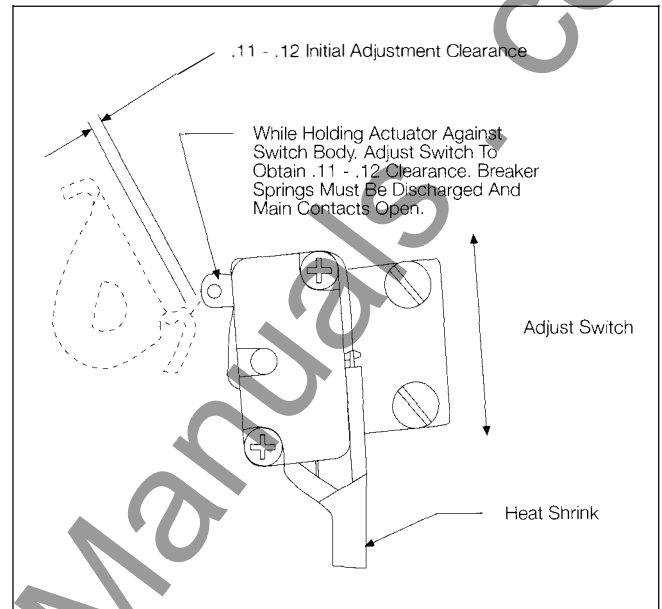

Figure 3. Latch Check Switch Assembly
- 6.) Adjust switch (see Figure 3). When switch is properly adjusted tighten screws.